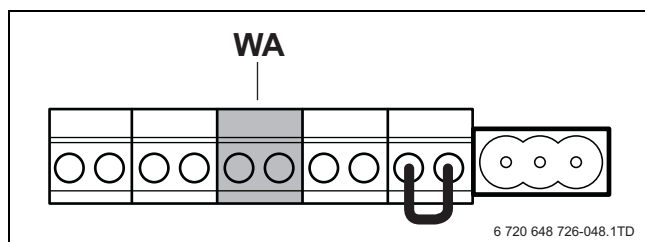

Fig. 49 Terminal strip - WA potential-free heat demand
- ▶ It is not possible to connect a thermostat simultaneously to the RC connection and to the terminal for the potential-free heat demand (WA) (→ fig. 49).